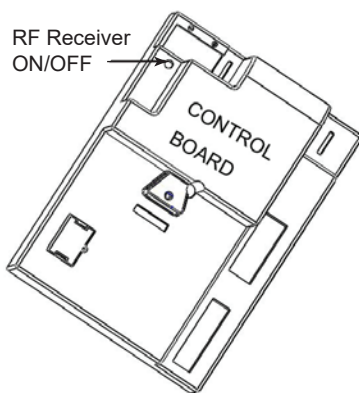

Figure 21.
1. The RF receiver button on the control board in the fireplace must be in the on position before the learn function can begin. Figure 21 With the Command Center master switch in the ON position, use paper clip to depress the recessed button on Control Board, one beep for RF receiver ON or two beeps for RF receiver OFF.